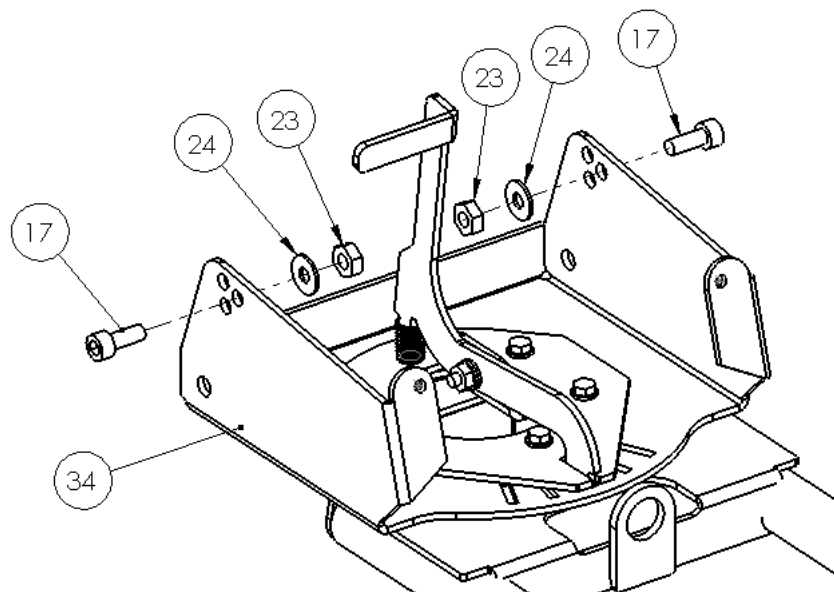

Figure 7
- 8) Install the M10 Socket Bolt (#17), M10 Washer (#24), M10 Nylock Nut (23) into the Slotted Top Plate (#34), these bolts act as a hard stop for the plow blade. Depending on the desired forward tilt, the bolts can be moved to the alternate holes in the Slotted Top Plate. **NOTE:** We recommend starting with the **bottom most hole** of the three. See (Figure 7).